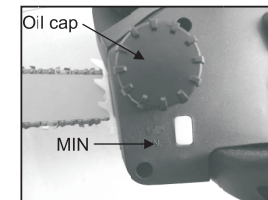

Fig.9
1. Unscrew the oil cap. (Fig.9)
2. Fill chain oil into the oil reservoir, oil lever should be above "MIN" limit. (Fig.9)